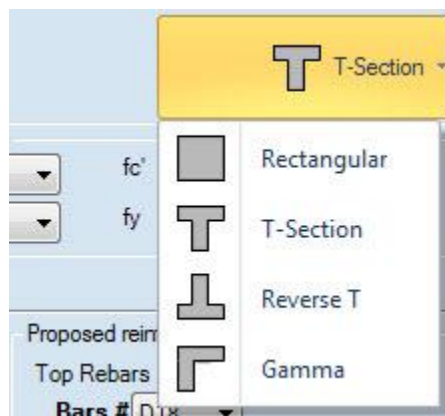

Figure 3.3.7: Available beam section types.
- The section type. The options in figure 3.3.7 are available.